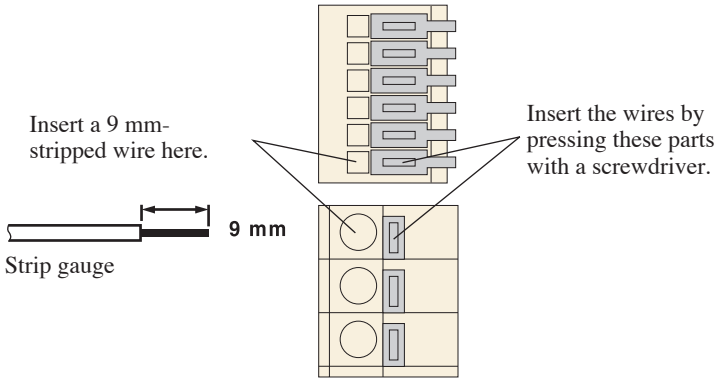

Fig.4-2 Connection to the control terminals
Remove the covering from each wire over a distance of 7 mm to 10 mm (9 mm is recommended). Use of the strip gauge on the top or rear panel of the unit, or that shown in Fig.4-2, allows you to remove the required amount of covering from a wire.
4. Insert wires into control terminals as shown in Fig.4-2